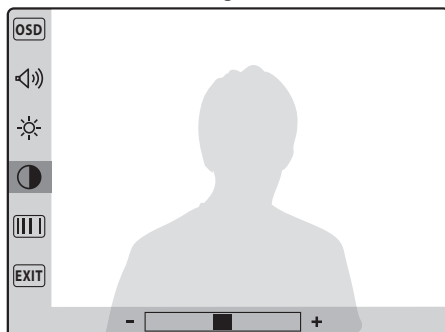

Fig.4b
- The picture contrast (8 levels Fig.4b);